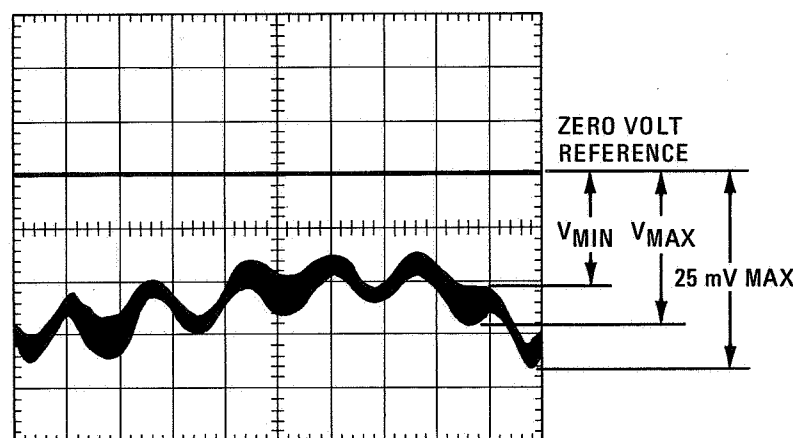

Figure 4-12. Typical Low Frequency Swept VSWR Measurement.
4. Select several points on trace and calculate  $V_{MAX}/V_{MIN}$  (see Figure 4-12).